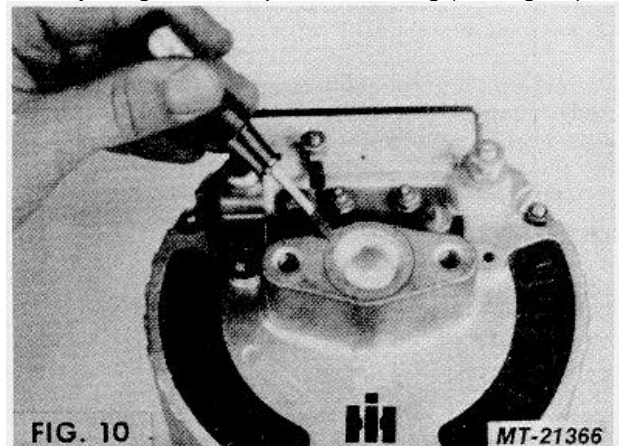

FIG. 10
14. Pry flanged dust cap out of housing (see Fig. 10).